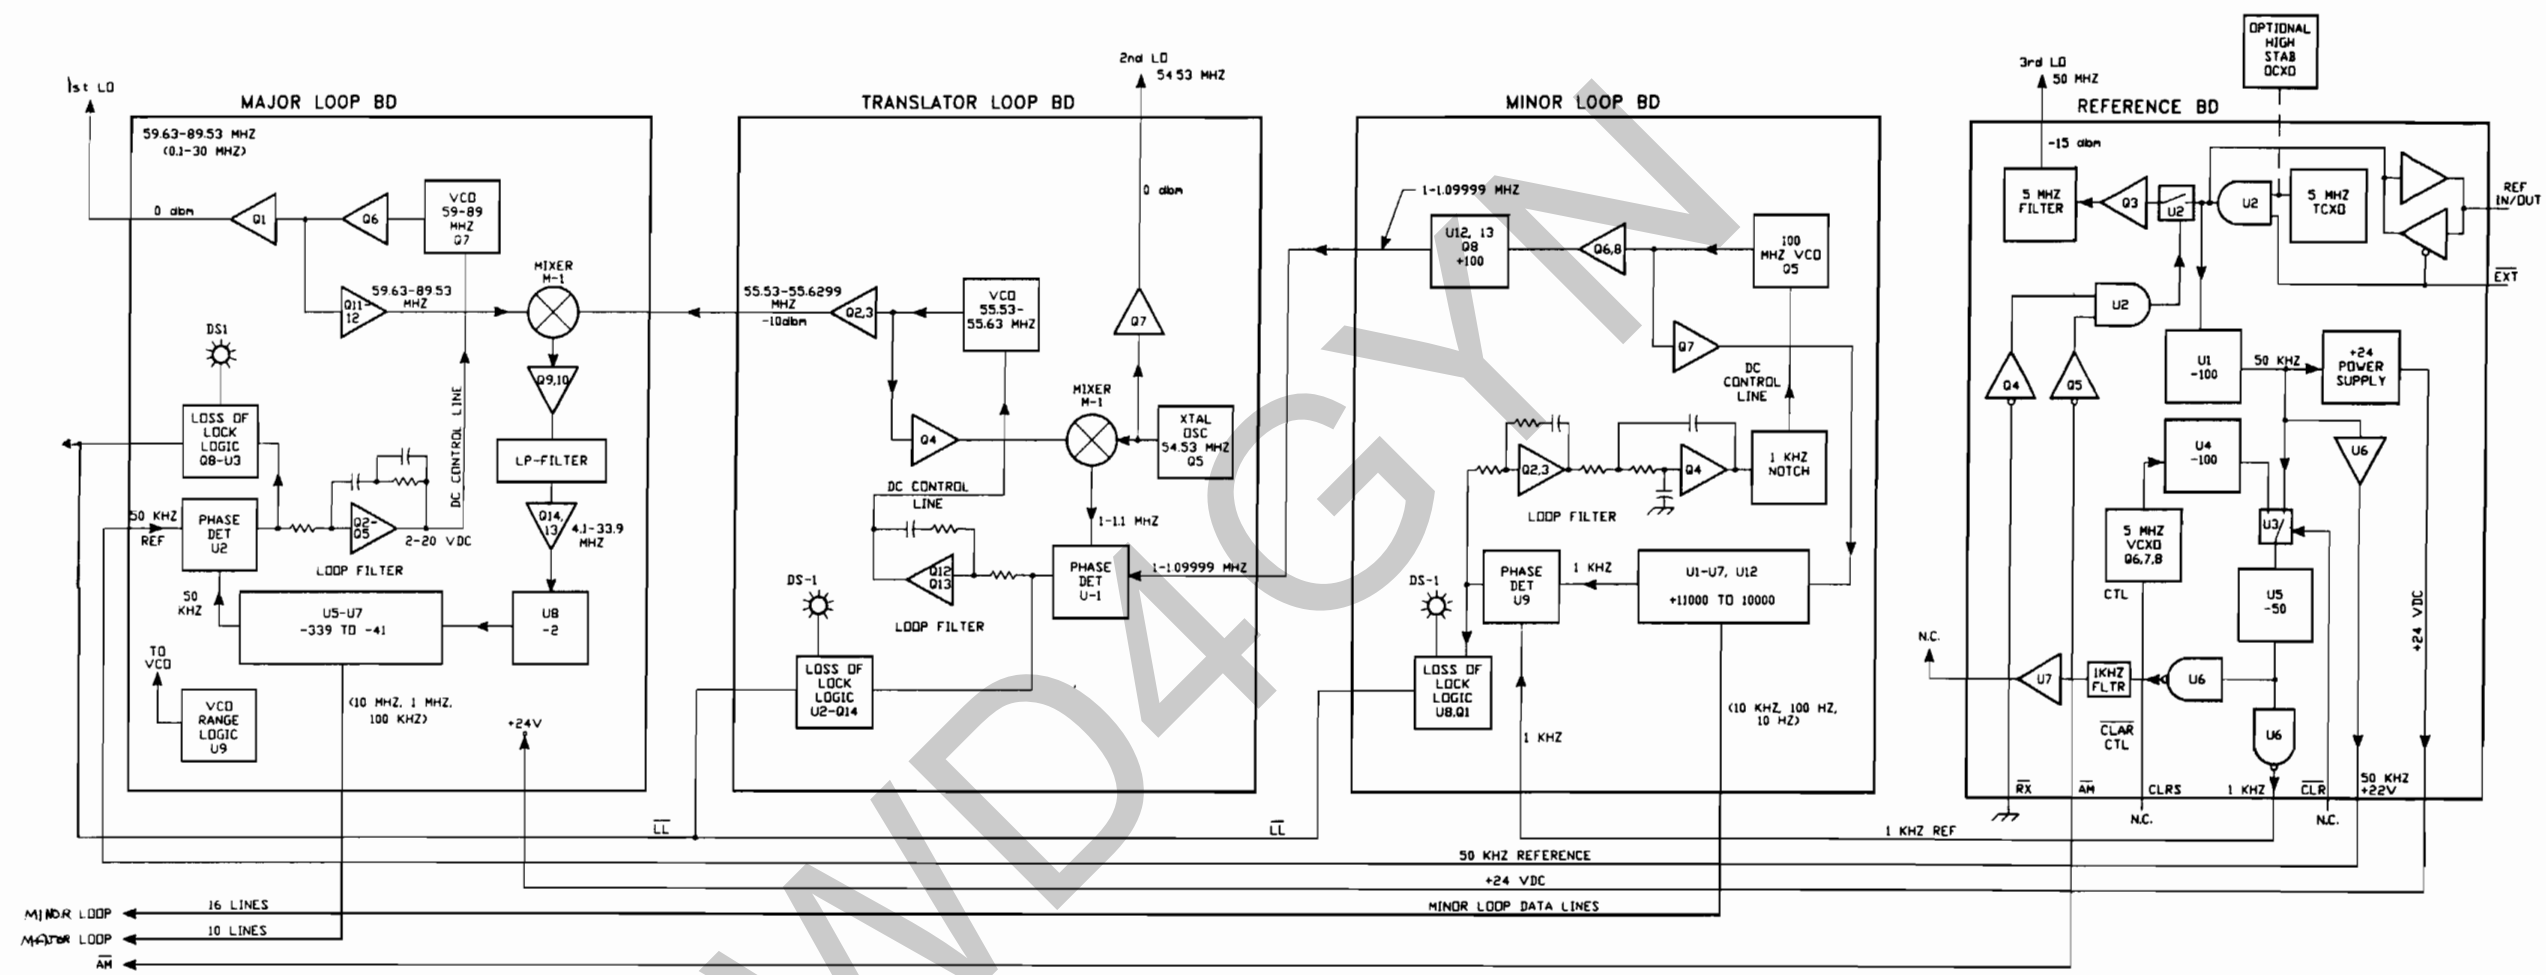

Figure 4.4
4.11 FREQUENCY SYNTHESIZER (See Figure 4.4 for a block diagram of the synthesizer.)